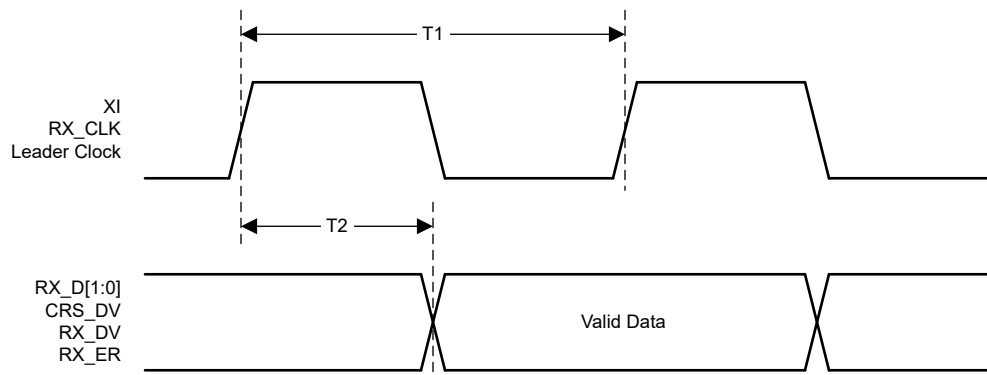

Figure 6-10. RMII Receive Timing
(1) Specified by production test, characterization, or design.
(2) See Figure 6-10.